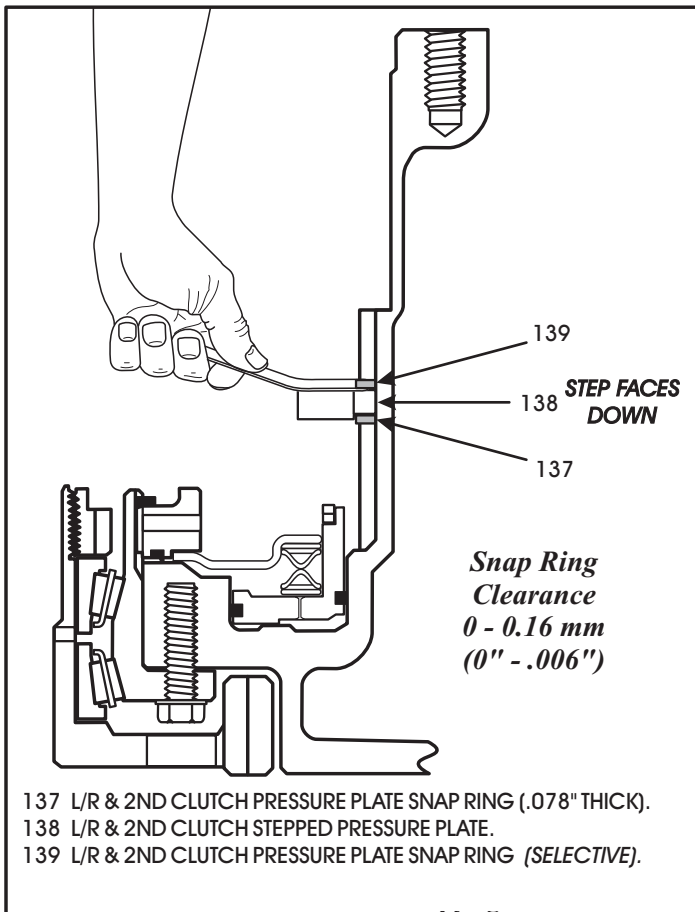

Figure 244
13. Measure with a feeler gage between pressure plate and the selective snap ring, as shown in Figure 244.